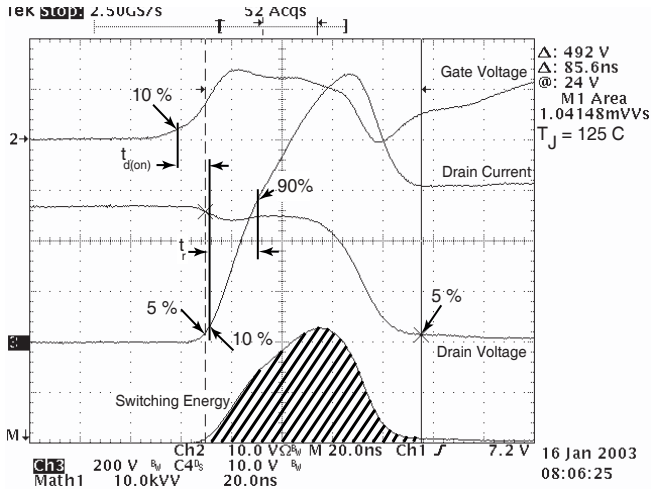

Figure 18, Turn-on Switching Waveforms and Definitions
③ See MIL-STD-750 Method 3471
④ Starting  $T_j = +25^\circ C$ ,  $L = 2.00mH$ ,  $R_G = 25\Omega$ , Peak  $I_L = 31A$
⑤  $dv/dt$  numbers reflect the limitations of the test circuit rather than the device itself.  $I_S \leq -I_D 31A$   $di/dt \leq 700A/\mu s$   $V_R \leq V_{DSS}$   $T_j \leq 150^\circ C$
⑥  $E_{on}$  includes diode reverse recovery. See figures 18, 20.